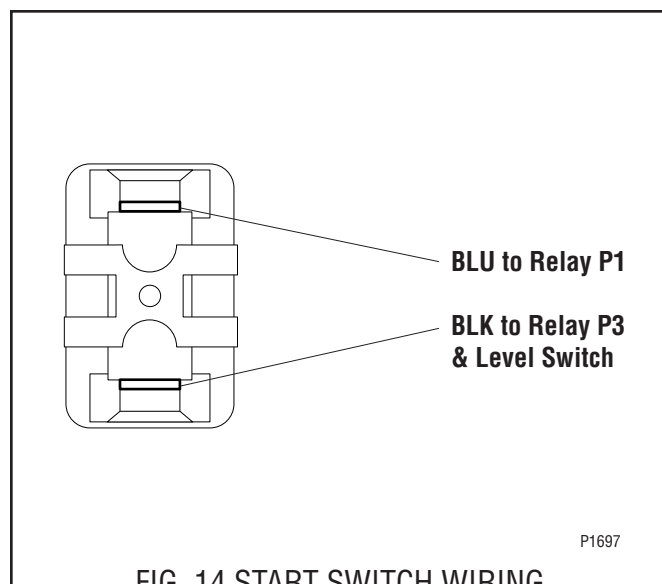

FIG. 14 START SWITCH WIRING
4. Refer to FIG. 14 when reconnecting the wires.